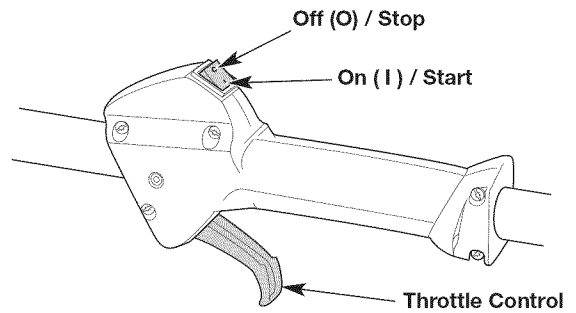
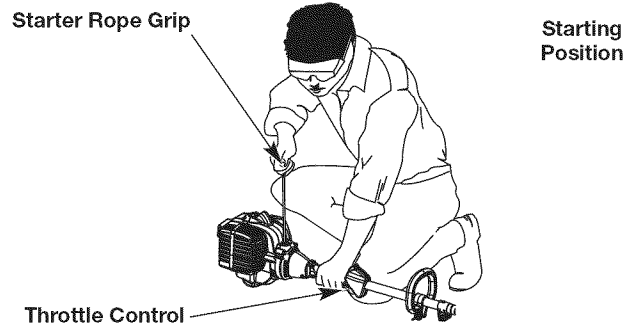

Fig. 8
Fig. 10
WARNING: Avoid accidentally starting the unit. To avoid serious injury, the operator and the unit must be in a stable position when pulling the starter rope (Fig. 10).
NOTE: There is no need to turn the unit on. The On/Off switch is in the ON (I) position at all times (Fig. 8).
5. Crouch in the starting position (Fig. 10).
6. Squeeze the throttle control (Fig. 8) and pull the starter rope with a controlled and steady motion **5 times** (Fig. 10).
2. Press and hold the On/Off switch in the OFF (O) position until the engine comes to a complete stop (Fig. 8).
7. Squeeze and hold the throttle control (Fig. 8). Run the Speed Start™ accessory for 2 seconds.